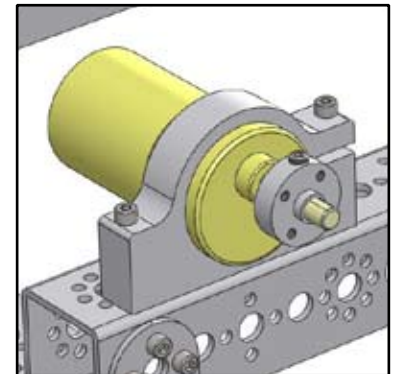

Figure A16
- 3) Slide a motor hub over a DC motor shaft; tighten the hub's screw. Slide the motor into the motor mount with the shaft and hub facing out. Adjust the motor until the gearbox is centered in the motor mount and the motor shaft is at the bottom of the mount (Figure A16). Tighten the clamping end of the motor mount.